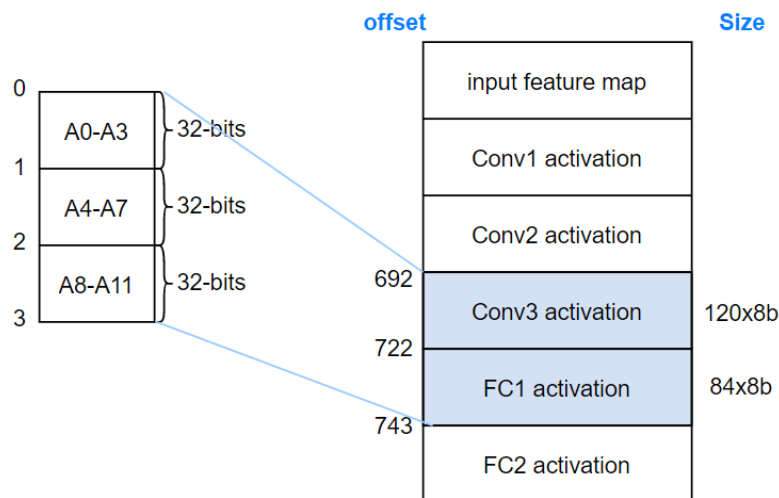

Figure 2: Layout of the activation SRAM.
4. Figure 2 shows the layout of the activation SRAM. At the beginning, all SRAM locations, except offsets 692 to 721, will be zero. The testbench will load the Conv3 output activations from offset 692 to offset 721 in SRAM. Each address holds four 8-bit inputs. For the FC1 layer, you should also place four 8-bit quantized data at every address for the next fully connected computation. That means you need to place the